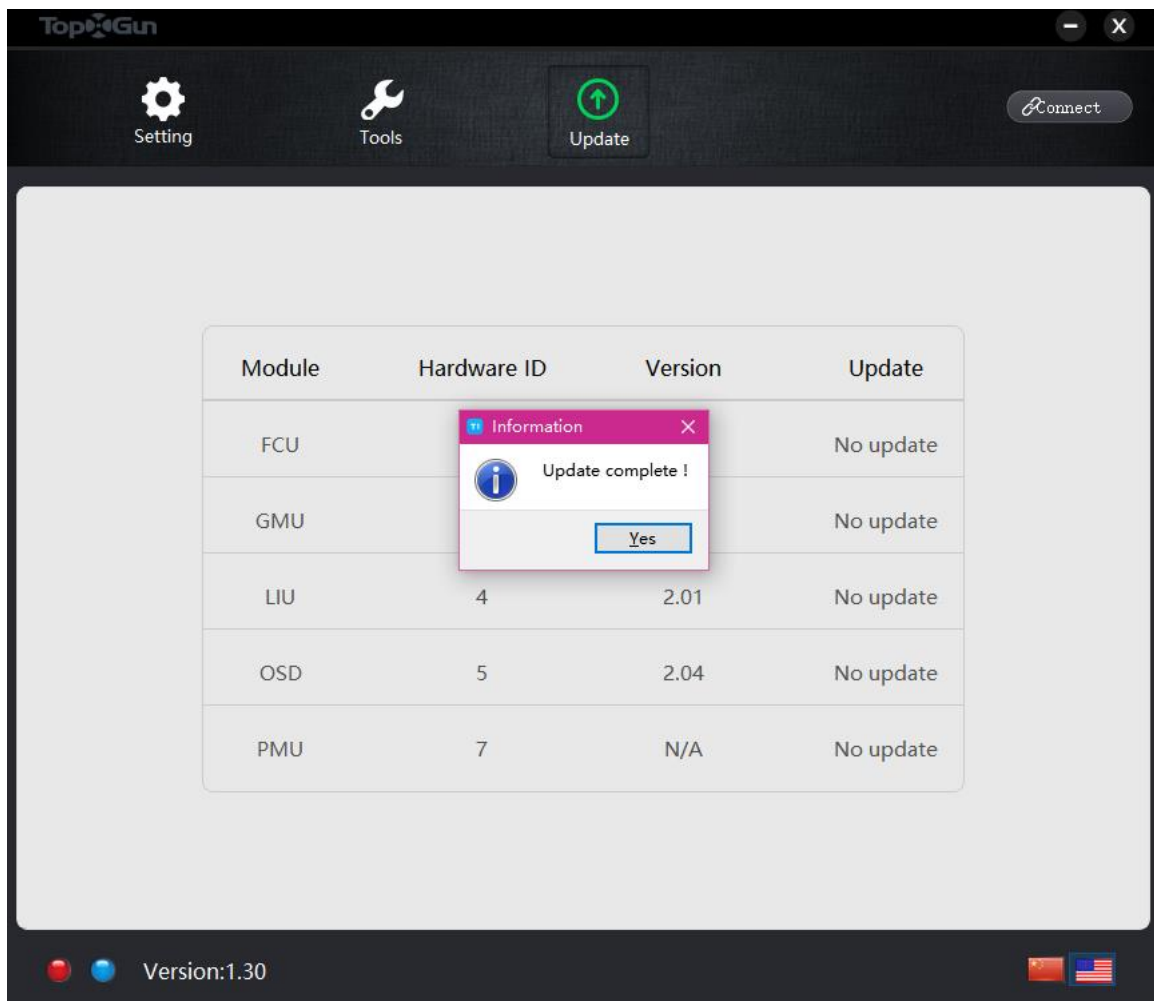

Figure 2-4 Firmware Update 4
Step3. After the update is finished, 'No available update' displayed in the column of 'Update', it means the current firmware is the latest one as shown in Figure 2-4.